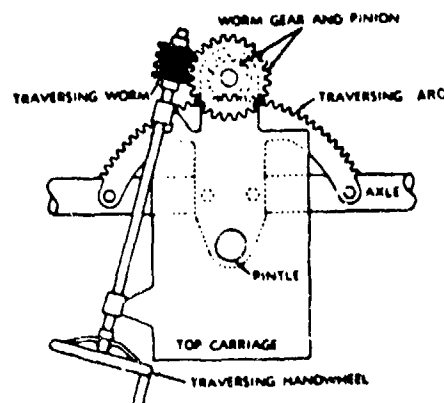

Figure 2-10. Traversing mechanism.
i. *Traversing mechanism.* The traversing mechanism is a mechanical device used for making lateral changes in the direction of the tube and for holding the tube in that position. A typical traversing mechanism (the arc and pinion type) is shown in figure 2-10. The M102 is traversed as described in *h*(3) above. Traversing mechanisms may be either manually or power operated, or they may incorporate both capabilities.